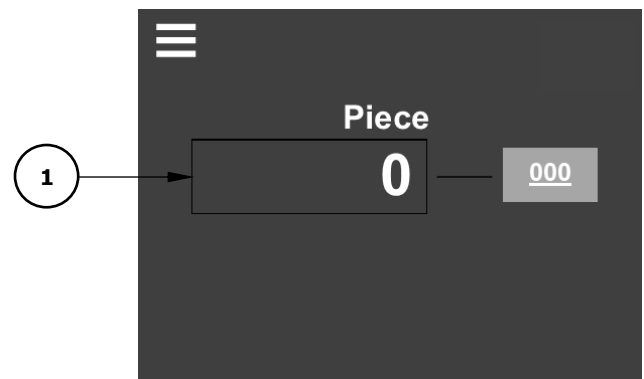

Figure 8.4.1
1. Select field **1** by touching it. The quantity screen appears. See Figure 8.4.1.